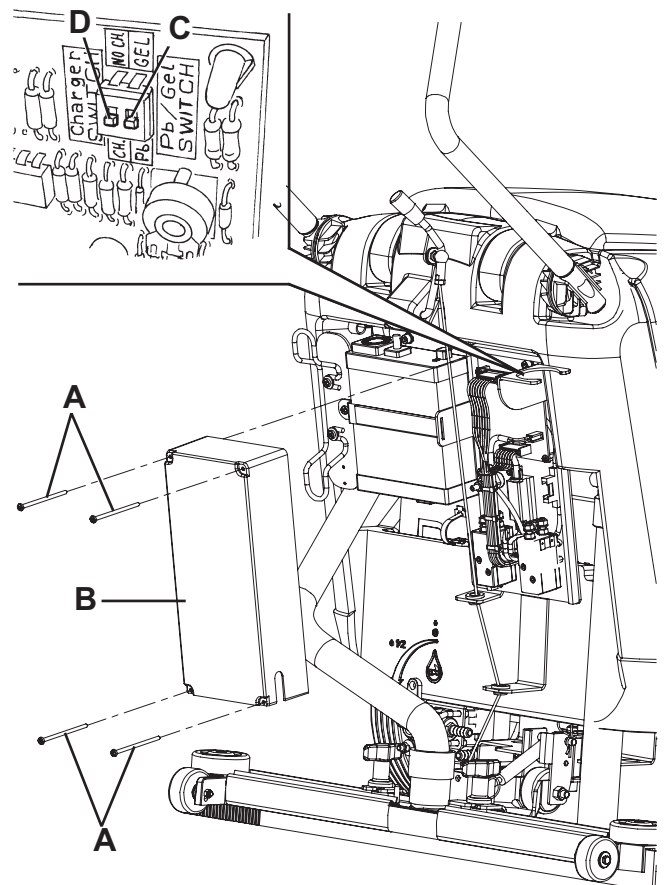

Figure 1
1. Ensure that the battery connector (29), if equipped, is disconnected.
3. Remove the screws (A, Fig. 1), then remove the electrical component box cover (B).
4. Turn the microswitch (C) to WET position.